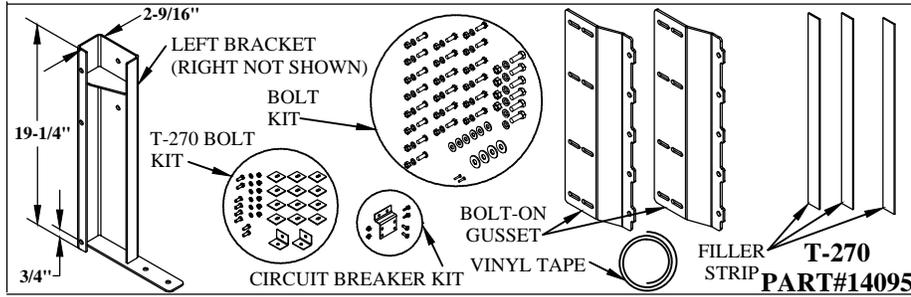

Figure 1: T-270 Part Identification.
2. **Verify** mounting bracket kit (Figure 1 and Table 1).